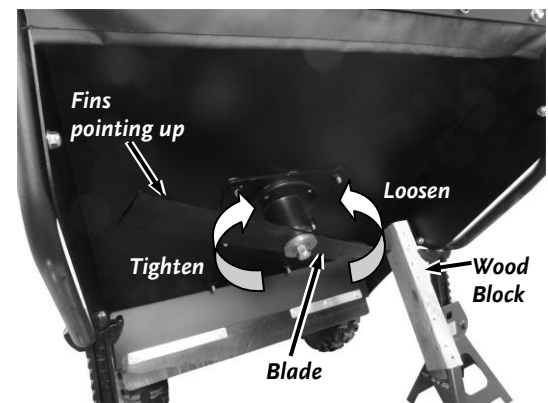

Figure 31
1. Brace the Blade with a block of wood between the Blade and the Mower Deck (**Figure 31**).